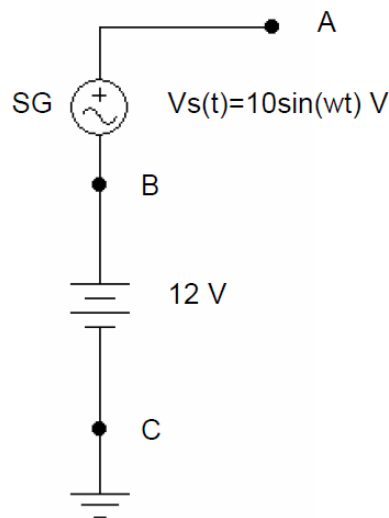

Figure 78.
Consider the circuit shown in Fig 78. A signal generator (SG) is connected in series to a 12 Volt power supply. If the signal generator is a grounded output signal generator, one of the output terminals should be ground terminal. If the ground terminal is connected to B then $V_{BC} = 0$ as both B and C are grounded (0 V). And $V_{AC} = 10\sin(\omega t)$ Volts, the power supply has no function. But if a floating output signal generator is used V_{AC} would be $12 + 10\sin(\omega t)$ Volts.